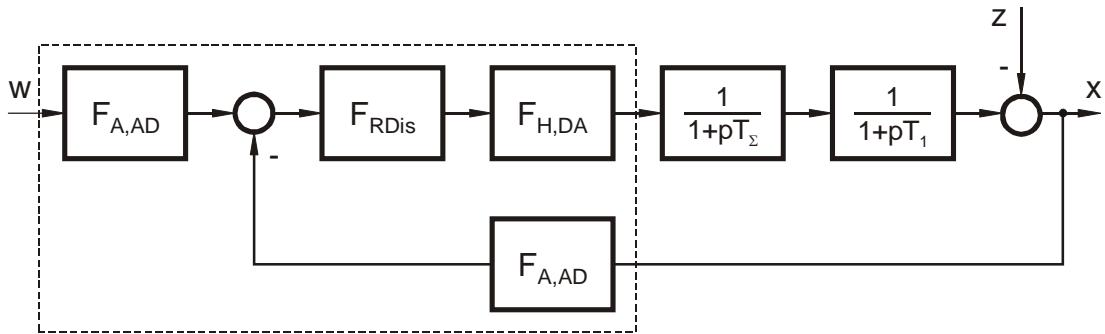

Fig. 1
2.2 Ascertain the transfer function for a time-discrete controller according to the Time-discrete Technical Optimum for the control circuit shown in Fig. 1. using the parameters given in section 4. Act thereby on the assumption of a continuous PID-controller. Ascertain the controller coefficients for the sampling times given in Table 1 and $e = 0$.
2.3 Ascertain the transfer function for a time-discrete controller with finite settling time for the control circuit shown in Fig. 1. Design the transfer function for a settling time of three sampling steps and $y_0 = y_1$. Calculate the controller coefficients for the sampling times given in Table 1.
Parameters of the plant shown in Fig. 1: